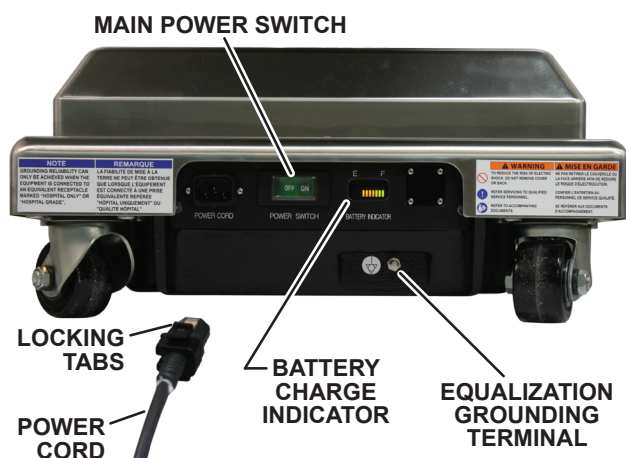
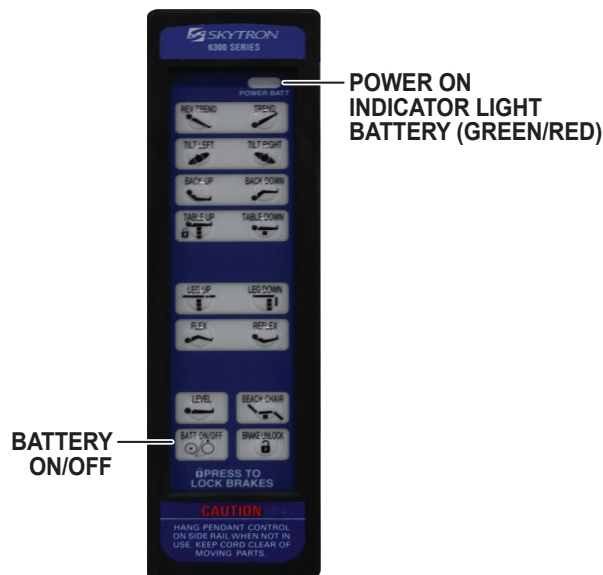

Figure 3-5. Electrical Panel
Figure 3-7. Pendant Control (Battery Power)
1. Make sure the power cord is securely attached to the table. To install the power cord, align the cord connector with the base connector (POWER CORD), insert the cord into the connector until it locks in place (Figure 3-5).
1. Make sure the main power switch (POWER SWITCH) indicator light is OFF. If the indicator light is ON (AC Power ON), place the main power switch (POWER SWITCH) in the OFF position (Refer to Figure 3-5).
2. Press the BATT ON/OFF button on the pendant control. The pendant control buttons, the green and red BATTERY indicator lights in the upper right corner of the pendant control and the battery charge indicator on the electrical panel, will illuminate (Refer to Figure 3-5 and Figure 3-7).
In battery mode, three (3) green LEDs, four (4) yellow LEDs, and three (3) red LEDs on the BATTERY CHARGE INDICATOR are turned on according to the charge state (Figure 3-7).